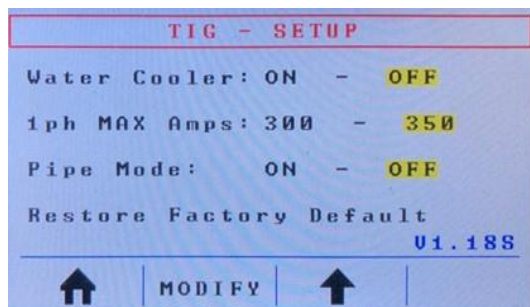

Fig. 50
From the TIG 2T main screen, you can enter the setup menu by pressing button **E** (Fig. 11) three (3) times. Pressing button **E** one (1) time brings you to the sequencer screen, pressing button **E** two (2) times brings you to the hot-start screen, and pressing button **E** three (3) times brings you to the TIG - SETUP (system settings) screen (Fig. 50).